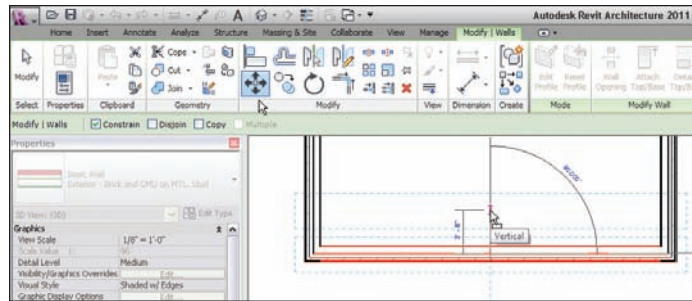

FIGURE 4.2 Choices on the Options bar. The first point has been picked and the wall is being moved up.
6. To start moving the item, you must first pick a base point for the command. Pick a point somewhere toward the middle of the wall, as shown in Figure 4.2.
7. After you pick this point, move your cursor straight up. You will see a blue dimension. At this point you have two choices: you can either “eyeball” the increment, or you can type the increment you want (see Figure 4.2).